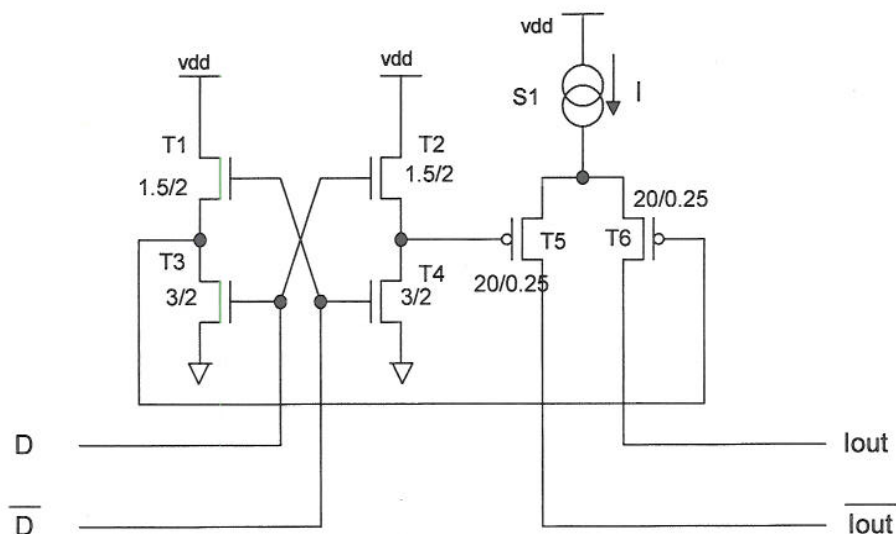

Figure 5.1
5. Figure 5.1 shows part of the driver and switching circuit of a digital to analogue converter. Transistors T1 to T4 form the differential driver for the current steering switches T5 and T6. The sizes of the transistors are: T1 and T2,  $1.5\mu$  (W) x  $2.0\mu$  (L); T3 and T4,  $3.0\mu$  x  $2.0\mu$ ; T5 and T6,  $20.0\mu$  x  $0.25\mu$ . The outputs  $I_{out}$  and  $\overline{I_{out}}$  are expected to be connected to external resistors. The inputs  $D$  and  $\overline{D}$  are complementary signals.